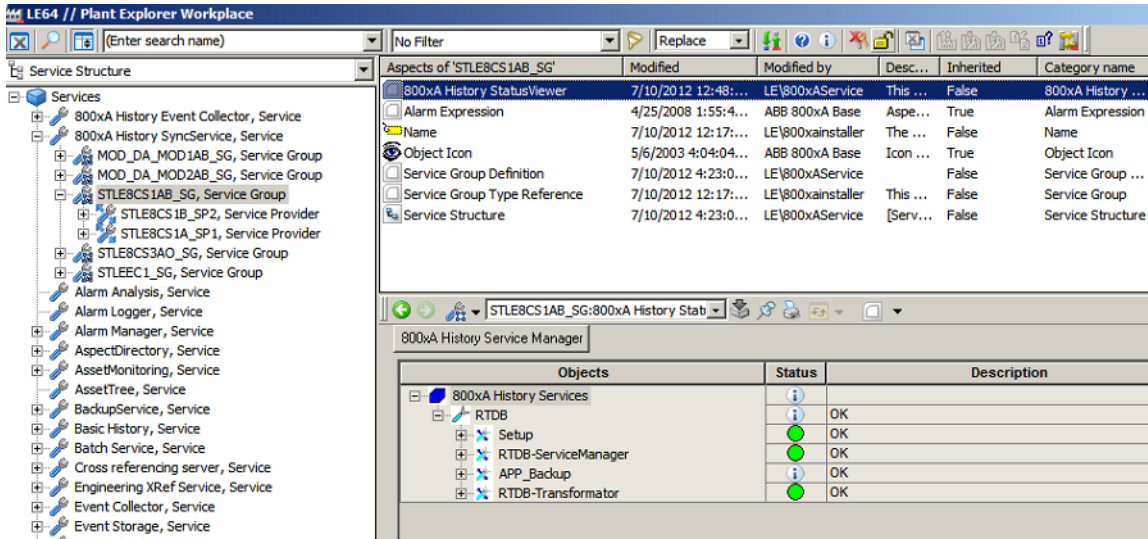

Figure 104. 800xA History Service Manager
- Click **800xA History Service Manager** as shown in Figure 104.
6. Click **800xA History Service Manager** as shown in Figure 104.